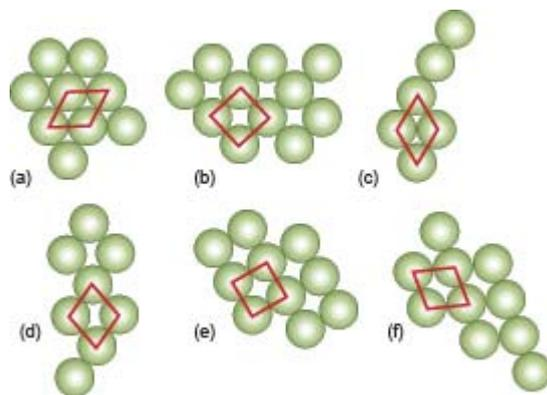

Figure C13. The primitive unit cells of the lattice fragments.
**E2.** The unit cells are shown. That for the hexagonal structure is not a hexagonal. The *smallest* repeating unit is the parallelogram shown in Figure C13.